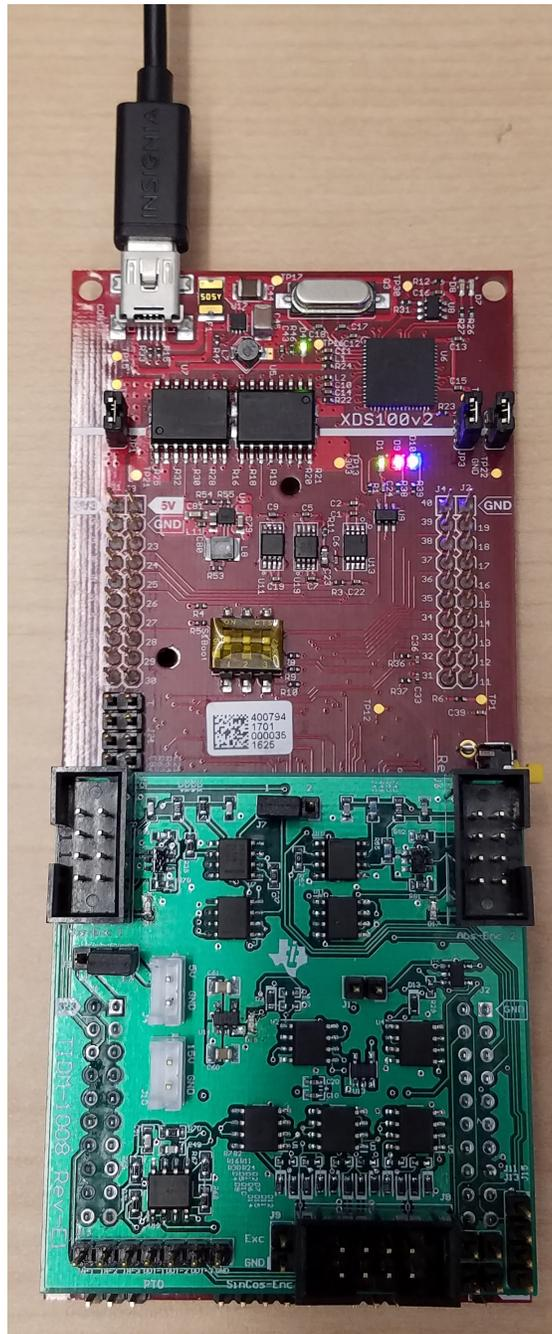

Figure 9. TIDM-1008 Board Connected to Site Two of LaunchPad™
2. Connect TIDM-1008 to the LaunchPad using the BoosterPack connector (J1-J3 and J4-J2). Make sure TIDM-1008 is connected to site two of the LaunchPad as shown in Figure 9.